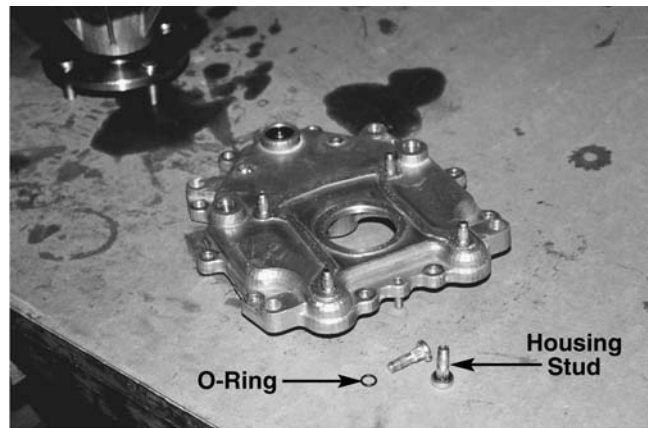

Figure 10-69.
29. There is an "O" ring on the stud and a sealing surface cut into the housing on the opposite side. If the studs are loose, but still in the housing, they can be used but cannot be allowed to fall into the housing during assembly. If the housing will not retain the studs you will need to replace the housing. See Figure 10-69.